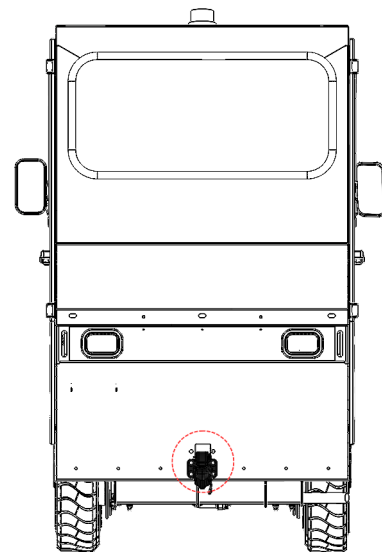

Figure 42. Hitch Mounting.
- Hitch mounting area (see Figure 42).